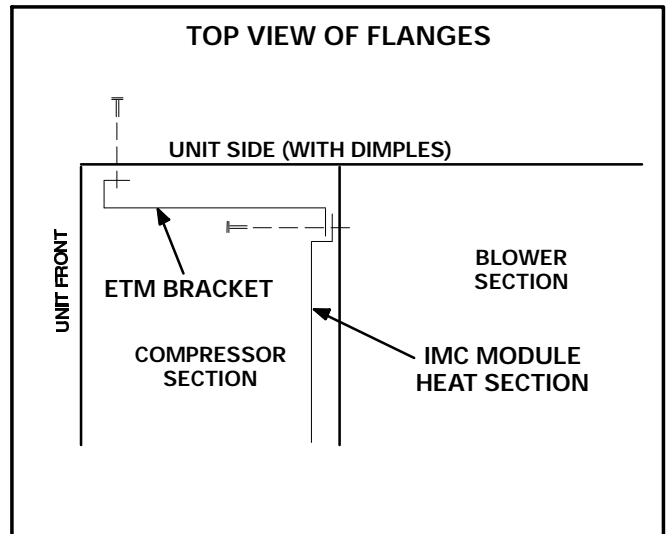

FIGURE 4
- 3- Align hole on L-shaped bracket flange with top hole on hat section flange. Secure hat section and bracket to unit with retained screw. See figures 4 and 5.